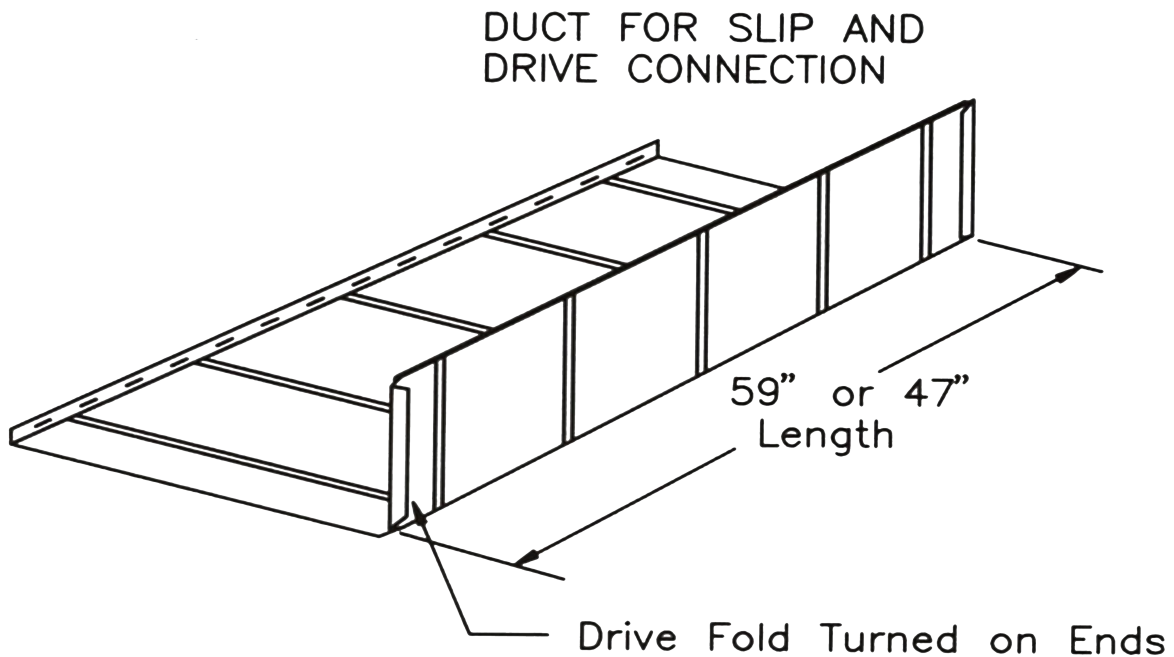

Figure 15. Rectangular duct half section
Pre-manufactured rectangular ducts are shipped in two L-shaped half sections (Figure 15). They are available in various lengths, 60 in. being most common. The two L-shaped half section are assembled using the two longitudinal button snap lock seams. Notice the two short sides have their ends turned over to create a Drive (hem)fold. Whereas the two long sides have raw edges.
- Figure 15. “Rectangular duct half section (<https://ecomfg.com/product-category/galvanized-duct-pipe-fittings-and-elbows/galvanized-duct-and-accessories/rectangular-duct-unassembled/>)” from ECCO Manufacturing is used and adapted for educational purposes under the basis of fair dealing.